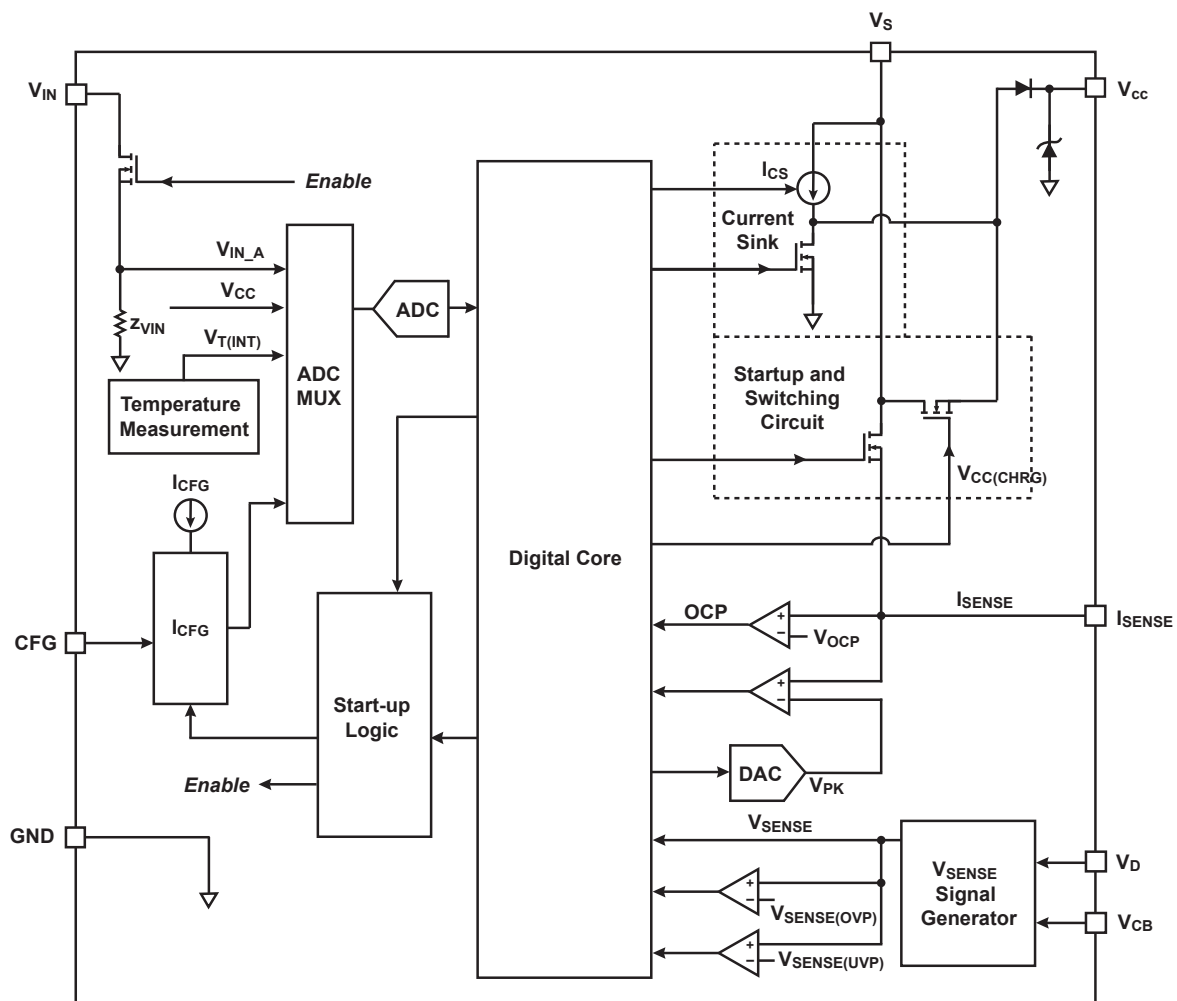
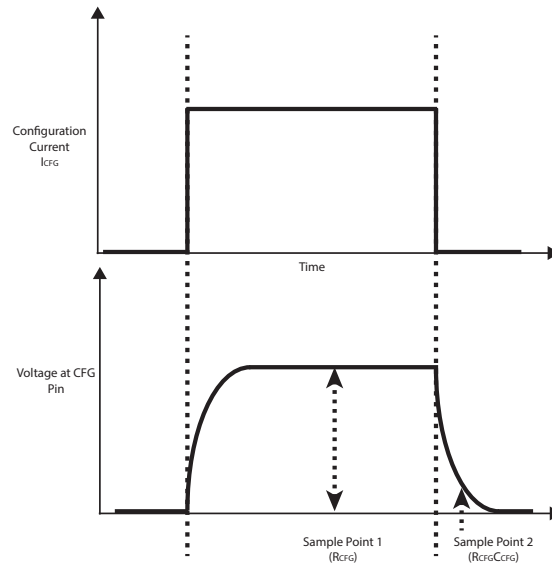

Figure 8.1 : iW3681-20 Functional Block Diagram
Figure 9.9 : Configuration Pin (CFG) Timing Waveform
- Note 2. Refer to the voltage level at the V_{IN_A} point in Figure 8.1. The typical impedance between the V_{IN} pin and V_{IN_A} point is 500Ω .
- Note 4. Refer to Z_{VIN} in Figure 8.1.
The Digital Core (shown in Figure 8.1) analyzes the rectified AC waveform and determines whether a dimmer is connected on the line. There are three dimmer modes in the iW3681-20: no-dimmer, leading-edge dimmer, and trailing-edge dimmer. Based on the detected dimmer type and input voltage waveform, the iW3681-20 determines whether to operate in current sink mode or switching mode. During switching mode, the output current regulation is determined by the inductor peak current (I_{SENSE} pin), the magnetic flux status of the inductor (V_D and V_{CB} pins), and the input voltage waveform (V_{IN} pin) (refer to section 9.4 for more information).
If a dimmer (either leading-edge or trailing-edge) is detected on the AC line, the iW3681-20 operates in dimmer mode. In dimmer mode, MOSFET (Q1 in Figure 11.1) operates in both switching mode and current sink mode based on the timing control of iW3681-20. During the switching mode, the output current is adjusted based on the detected phase conduction angle. During current sink mode, the switching circuit is disabled and the current sink circuit is enabled. The main MOSFET is forced to operate in linear mode, where the current through MOSFET is regulated by the Digital Core. As shown in Figure 8.1, V_{CC} can be charged during both current sink mode and switching mode.
In iW3681-20, output current regulation is implemented through peak current control in switching mode. Figure 9.5 and 9.6 show the basic principle of this peak current regulation during the switching mode. During T_{ON} , the main switch Q1 (shown in Figure 9.5) is turned on and the current, I_P , flows through the primary side of the buck-boost converter and Q1. I_P ramps up linearly and causes energy to build up in the power inductor L1 (shown in Figure 9.5). The iW3681-20 continuously monitors I_{SENSE} pin voltage, when it reaches V_{PK} (shown in Figure 8.1), it turns off the switching circuit. At this time, I_P reaches peak current regulation level I_{PK} (shown in Figure 9.5 and 9.6). After Q1 is turned off, the current in L1 ramps down linearly through D1 (shown in Figure 9.5), until the energy stored in the power inductor is discharged. During this period, the current through L1 flows to the secondary side of the buck-boost/flyback converter, which is called I_S .
At start-up, a current source in the iW3681-20 drives the configuration current I_{CFG} (100 μ A) into the CFG pin (shown in Figure 8.1). The iW3681-20 reads the pin voltage to determine the configuration option. The CFG pin configuration selects the temperature de-rating start point (OTP), V_{PK} high limit value at dimmer mode, and V_{IN} rising edge V_{PK} clamp value at no dimmer mode. The iW3681-20 can use either a single CFG resistor to ground for programming the configuration function, or it can use an RC configuration method to achieve more configuration flexibility. The CFG pin monitors two voltage sample points as shown on figure 9.9. The first point is set by the resistor value from CFG to ground and the second is set by the RC time constant if a capacitor is placed in parallel with the CFG resistor. Based on these two sample points, the iW3681-20 sets the functionality shown in table 9.1. The iW3681-20 can determine whether the capacitor is used in parallel with the resistor or not and program the configuration function accordingly.